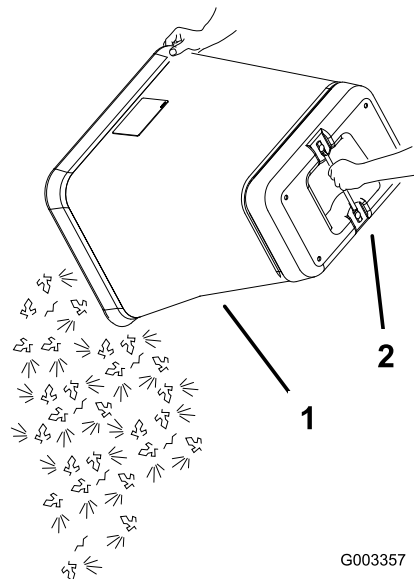

Figure 55
6. Grab the handle on the bottom of the bag and tip it over to empty the bag (Figure 55).